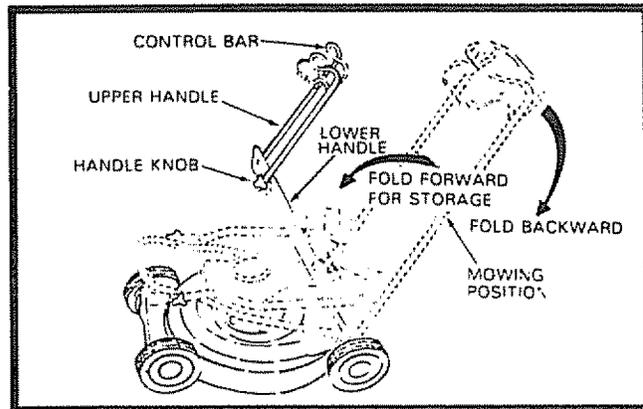

FIG. 25
- You can fold your Lawn Mower Handle for storage as shown in Fig. 25.
IMPORTANT: WHEN FOLDING THE HANDLE FOR STORAGE OR TRANSPORTATION, BE SURE TO FOLD THE HANDLE AS SHOWN IN FIG. 25. IF YOU FOLD THE UPPER HANDLE SECTION THE WRONG WAY, YOU MAY DAMAGE THE CONTROL CABLES.